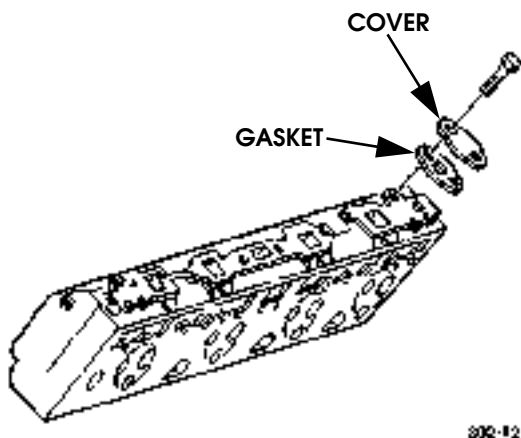

Figure 2-136: Cover Removal/Installation
7. Remove cover and gasket from right side head (Figure 2-136).